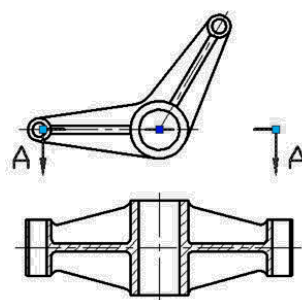

Fig 4.1
4. Test Dynamic Block: Open the graphic which needs to be dimensioned and insert the completed dynamic block (Fig 4.1). Drag the grip of the dynamic block, the section symbol can be stretched outward and rotated around the center, and you finish the section symbol mark (Fig 4.2).